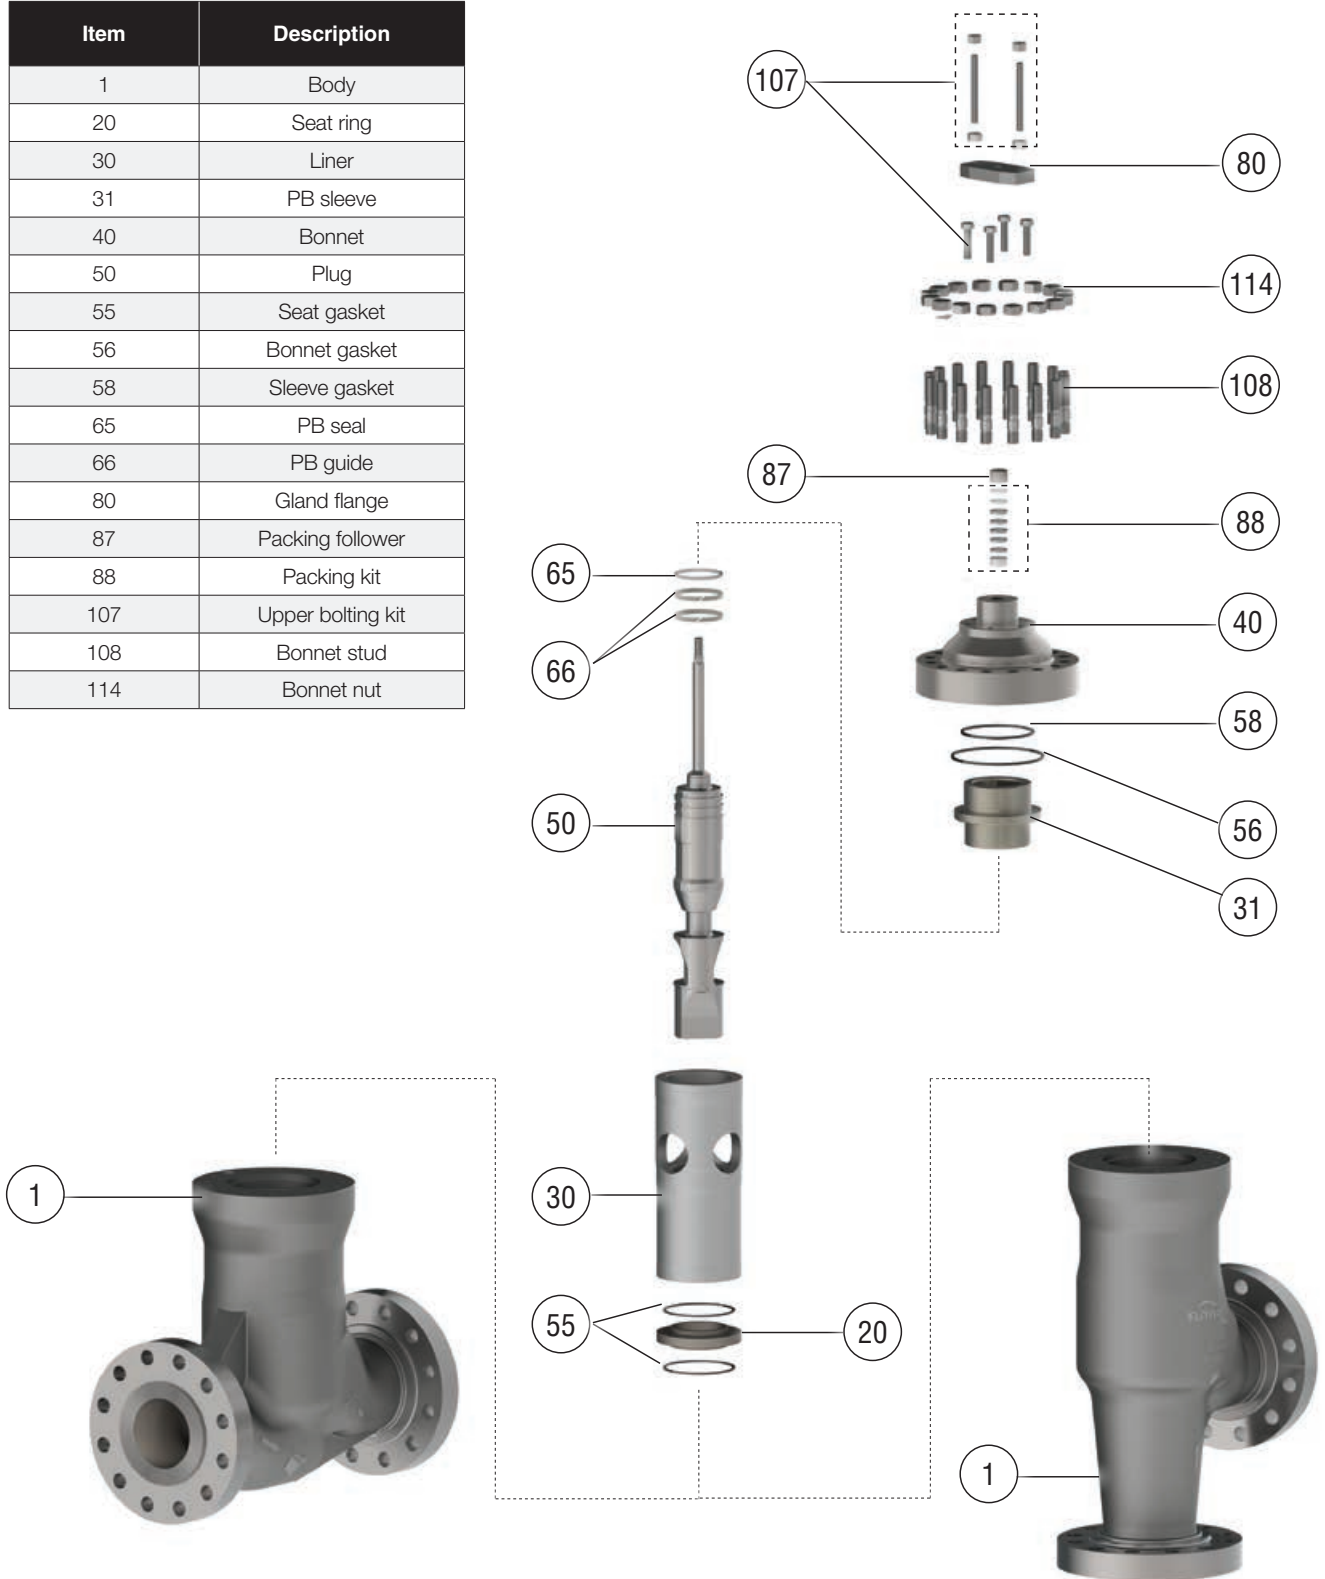

Figure 1: Multi-Z valve exploded view
To disassemble the body, refer to Figure 1 and proceed as follows:
To reassemble the valve assembly, refer to Figure 1 and proceed as follows:
10. Replace the packing kit; refer to Figure 1. Carefully slide each packing ring individually onto the plug shaft and into the bonnet.